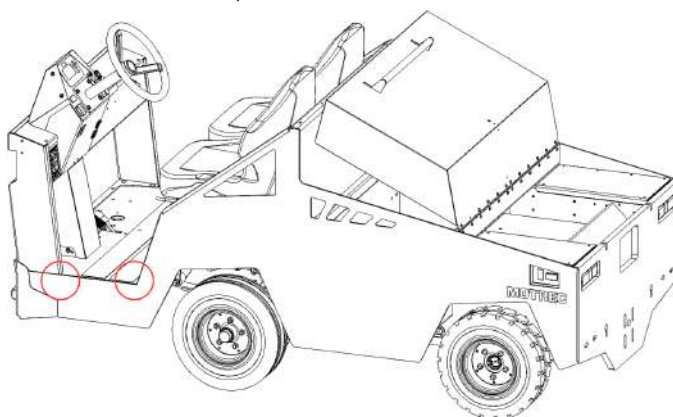

Figure 36. Side Panels.
- Side panels corners (1) (both sides). There is a possibility of cracks occurring in these corners as they undergo significant stress (see Figure 36).